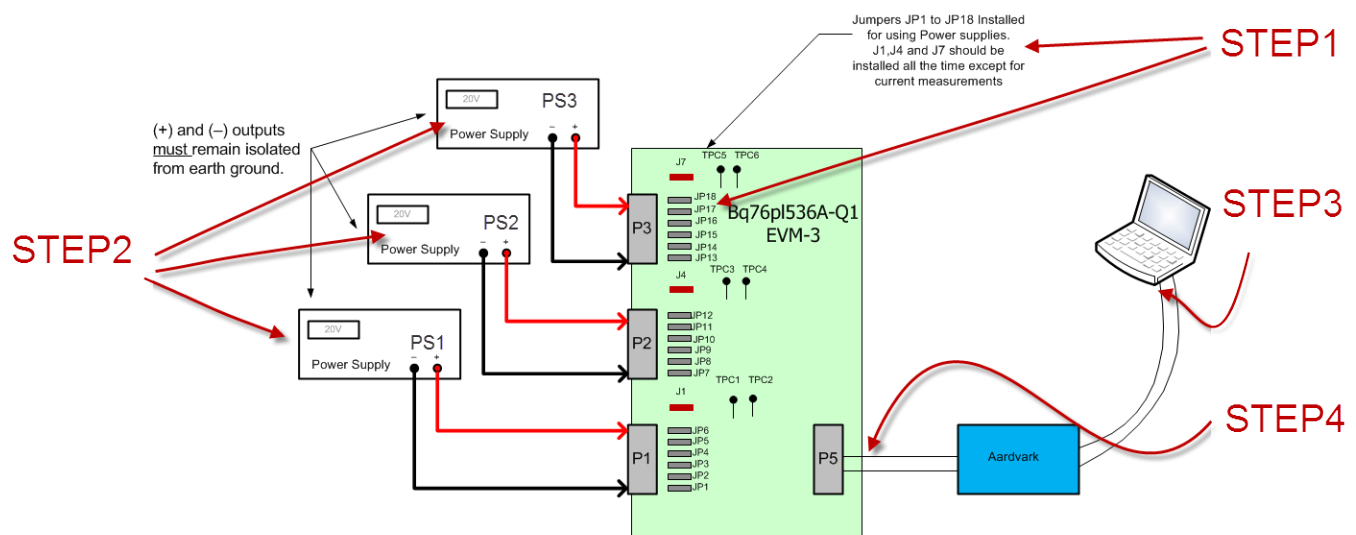

Figure 23. bq76PL536A-Q1 EVM-3 Correct Test Setup
1. Configure the EVM jumpers as Figure 23 shows.
1. Set PS1, PS2, and PS3 to 12 V (see preceding Figure 23).
1. Set PS1, PS2, and PS3 to 18 V as Figure 23 shows.